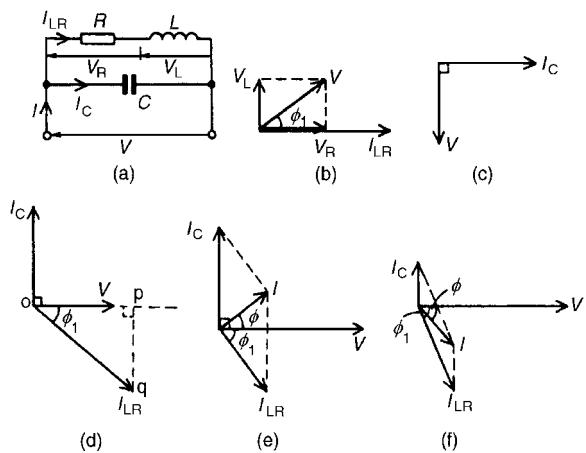

Figure 16.5
In the two branch circuit containing capacitance C in parallel with inductance L and resistance R in series (such as a coil) shown in Fig. 16.5(a), the phasor diagram for the LR branch alone is shown in Fig. 16.5(b) and the phasor diagram for the C branch is shown alone in Fig. 16.5(c). Rotating each and superimposing on one another gives the complete phasor diagram shown in Fig. 16.5(d)
The current I_{LR} of Fig. 16.5(d) may be resolved into horizontal and vertical components. The horizontal component, shown as op is $I_{LR} \cos \phi_1$ and the vertical component, shown as pq is $I_{LR} \sin \phi_1$. There are three possible conditions for this circuit:
- (i) $I_C > I_{LR} \sin \phi_1$ (giving a supply current I leading V by angle ϕ —as shown in Fig. 16.5(e))
- (ii) $I_{LR} \sin \phi > I_C$ (giving I lagging V by angle ϕ —as shown in Fig. 16.5(f))
There are two methods of finding the phasor sum of currents I_{LR} and I_C in Fig. 16.5(e) and (f). These are: (i) by a scaled phasor diagram, or (ii) by resolving each current into their ‘in-phase’ (i.e. horizontal) and ‘quadrature’ (i.e. vertical) **components**, as demonstrated in problems 6 and 7. With reference to the phasor diagrams of Fig. 16.5: